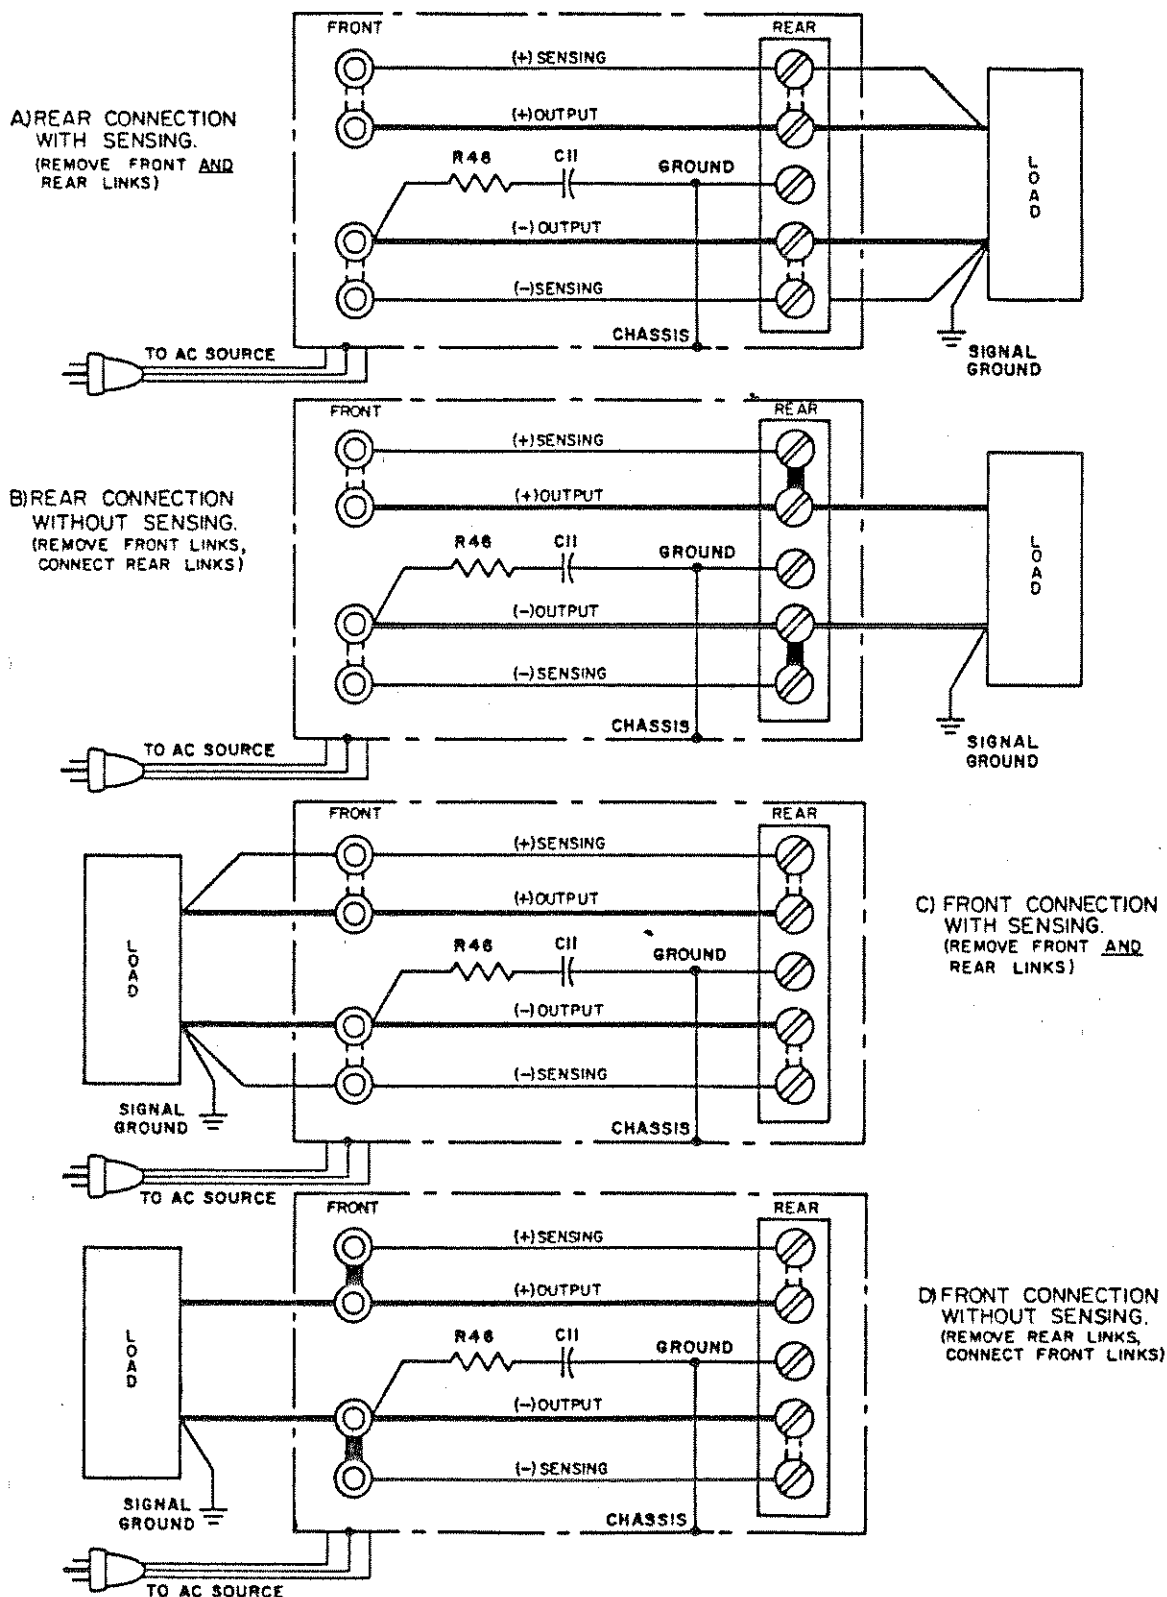

FIG. 3-3 LOAD CONNECTIONS, 6V, 5A SUPPLY.
LOAD CONNECTION, (6V, 5A SUPPLY) (SEE FIG. 3-3).
The load may be connected in one of the ways illustrated in FIG. 3-3. **IMPORTANT NOTE: IF ERROR SENSING IS USED, THE SHORTING LINKS BETWEEN OUTPUT AND SENSING TERMINALS MUST BE COMPLETELY REMOVED. IF ERROR SENSING IS NOT USED, THE LINKS MUST BE CONNECTED AT THE FRONT, IF THE LOAD IS AT THE FRONT. THE LINKS MUST BE CONNECTED AT THE REAR, IF THE LOAD IS AT THE REAR.**
- 4) Check if error sensing links are correctly placed. (6V, 5A SUPPLY). Refer to Section III, FIG. 3-3 for Load Connections.